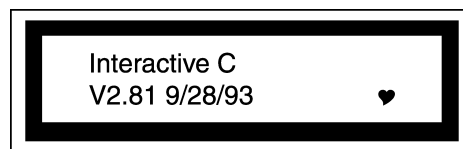

Figure 2. Healthy Handy Board LCD screen at startup.
4. Once the download process is complete, restart the Handy Board. If everything is working well, the LCD screen should appear as in Figure 2 with the heart beating. If the download process is unsuccessful, then ask your TA for help.